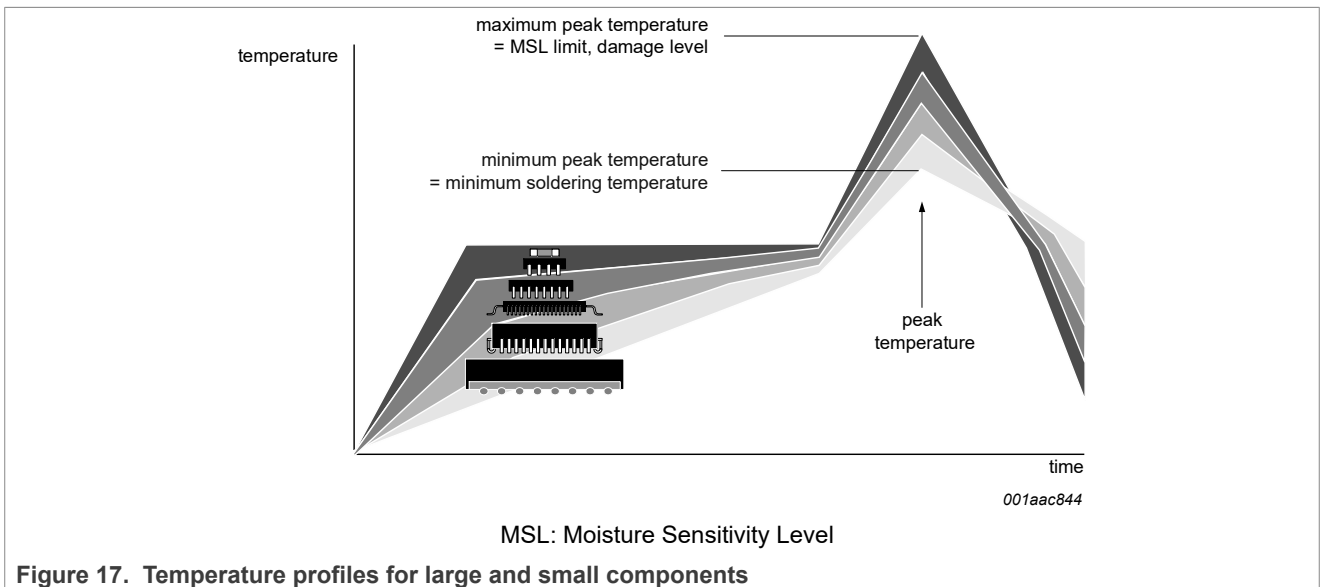

Figure 17. Temperature profiles for large and small components
- Lead-free versus SnPb soldering; note that a lead-free reflow process usually leads to higher minimum peak temperatures (see Figure 17) than a SnPb process, thus reducing the process window
Studies have shown that small packages reach higher temperatures during reflow soldering, see Figure 17.